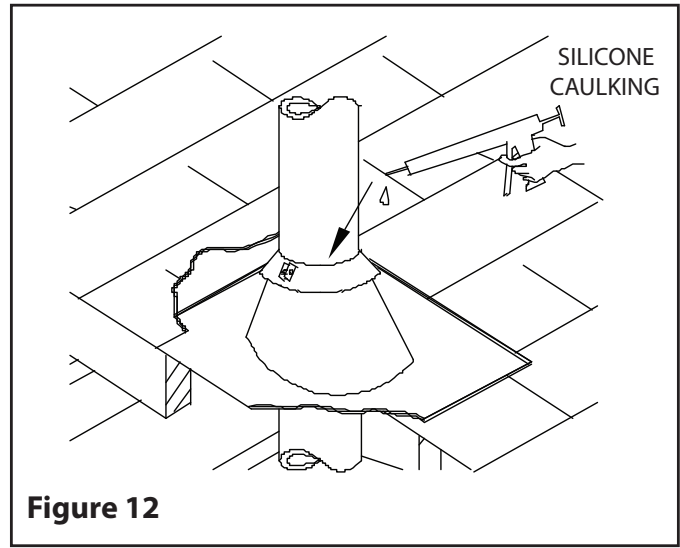

Figure 12
Step 9: Tighten the collar using the supplied bolt. Make sure the joint is properly caulked (see **Figure 12**).